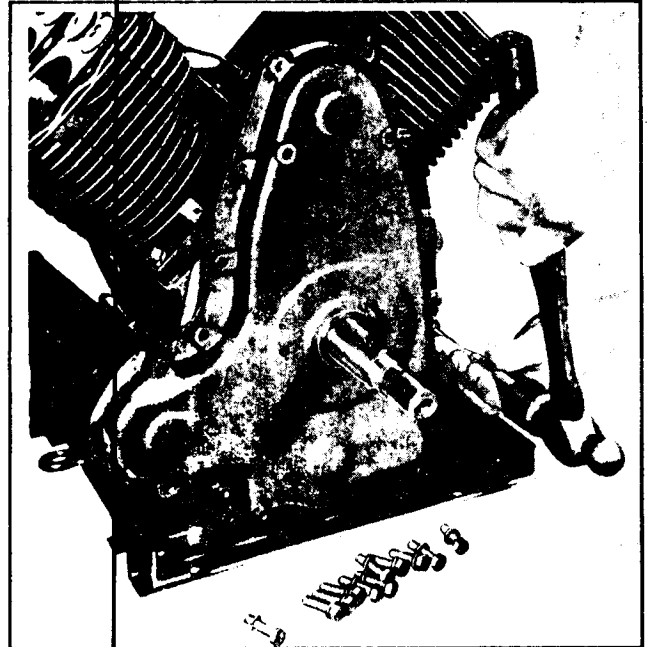
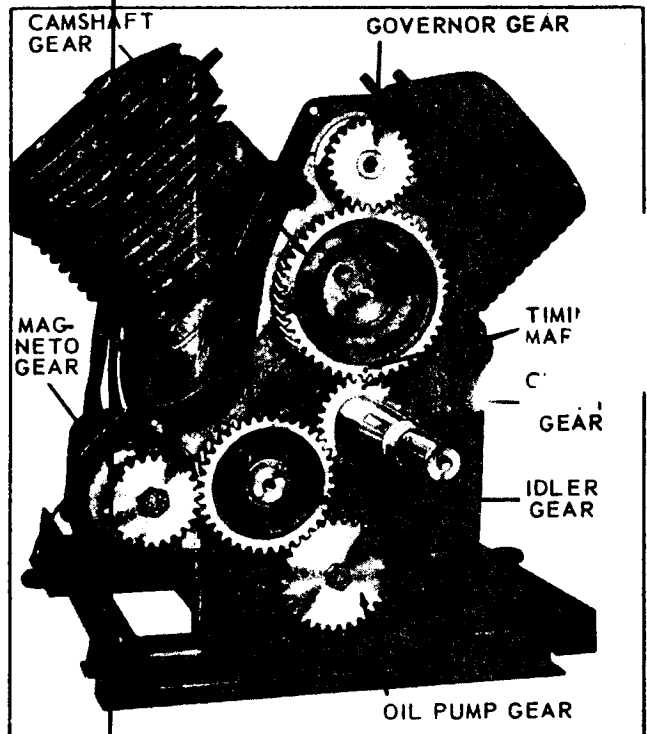

Fig. 29
Fig. 30
Disconnect the governor linkage before removing gear cover, since the same mounting screws for governor housing and gear cover are used. Remove gear cover screws and drive out two dowel pins as shown in Fig. 29. The cover can then be removed exposing the timing gears as shown in Fig. 30. In reassembly,
### CAMSHAFT GEAR (Fig. 30)
Remove the three cap screws and lockwashers which hold the gear to the end of the camshaft. Note that the *camshaft gear* has offset mounting holes to provide accurate assembly for valve timing. Refer to *Gear Train, Fig. 30*.
*CAUTION:* In reassembly, the *timing marks* on the crankshaft gear and camshaft gear must be aligned as shown in *Fig. 30*, otherwise engine will not operate properly, or if timing is off considerably, engine will not run at all.